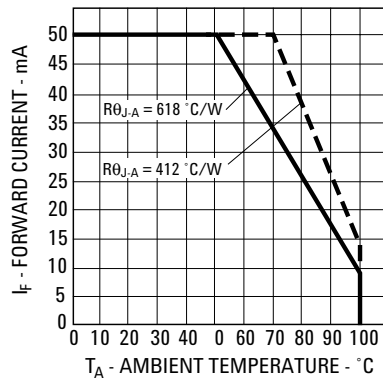

Figure 4. Maximum Forward Current vs. Ambient Temperature. Derating Based on  $T_{jMAX} = 110\text{ }^{\circ}\text{C}$ .
- Derate linearly as shown in Figure 4.